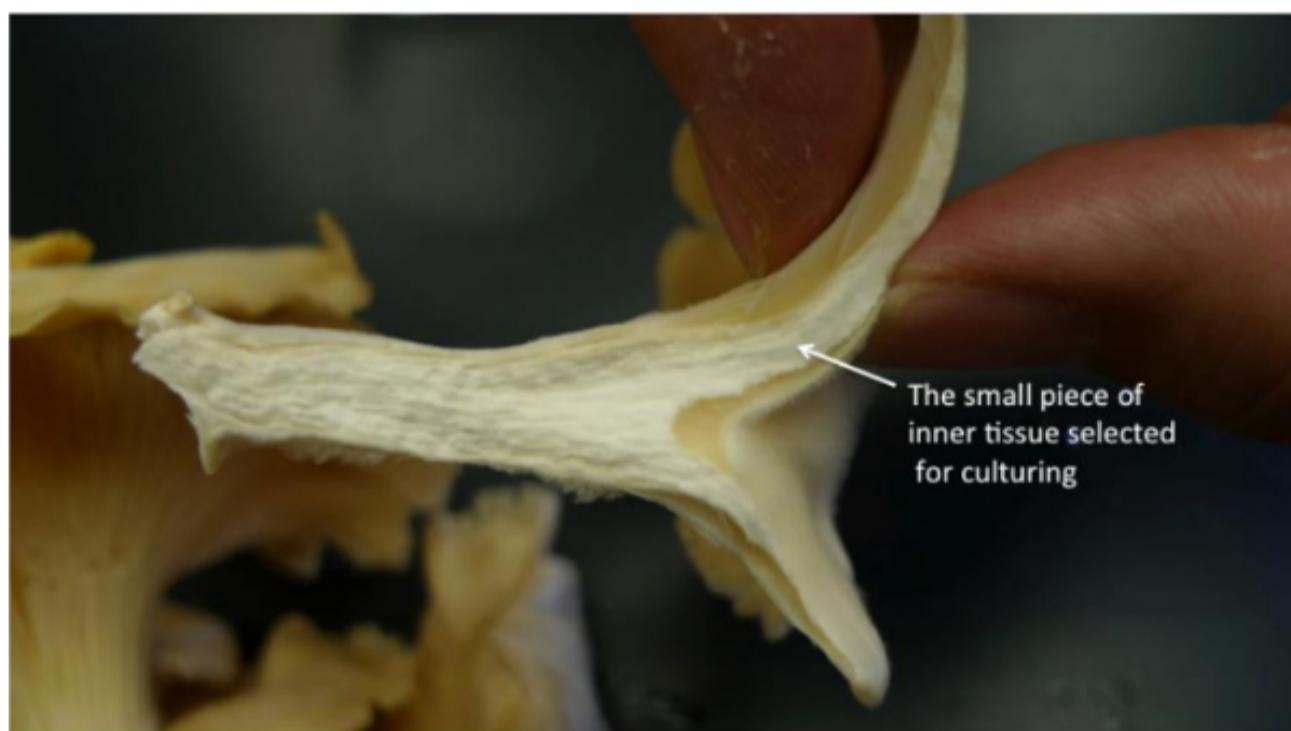

Figure 6.5. Oyster Mushroom. Image by Author
3. Add oyster mushroom tissue (Figure 6.5) into the centrifuge tube with 10% Vortex bleach, then leave to soak for 1 minute.
8. Place the sterile tissue on the PDA media. The tissue to be utilized is the inner tissue specified by the arrow (Figure 6.5).